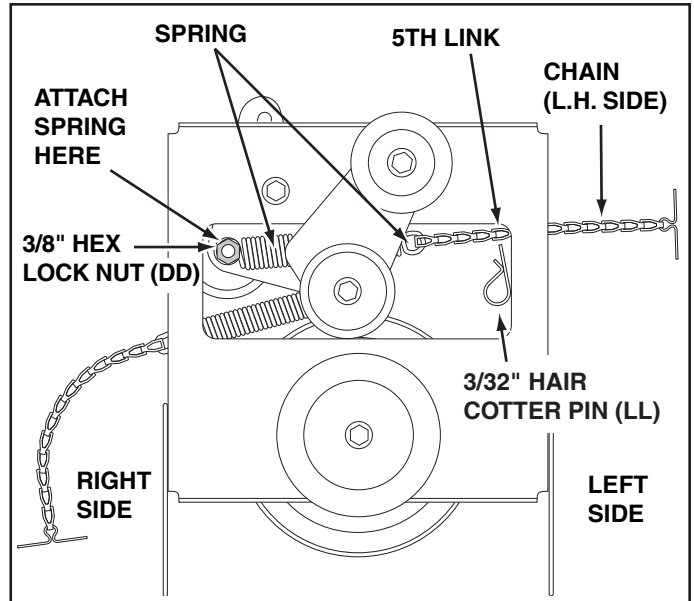

FIGURE 16
STEP 16: (SEE FIGURE 16)
- With the clutch/idler assembly turned upside down, hook the other end of the spring onto the end of the bolt and nut which secure the idler pulley to the upper idler arm. Assemble a 3/8" hex lock nut (DD) onto the bolt and nut, leaving enough gap between the nuts for the spring to pivot freely.
- Attach a 3/32" hairpin cotter (LL) to the chain, placing it in the fifth link from the spring.